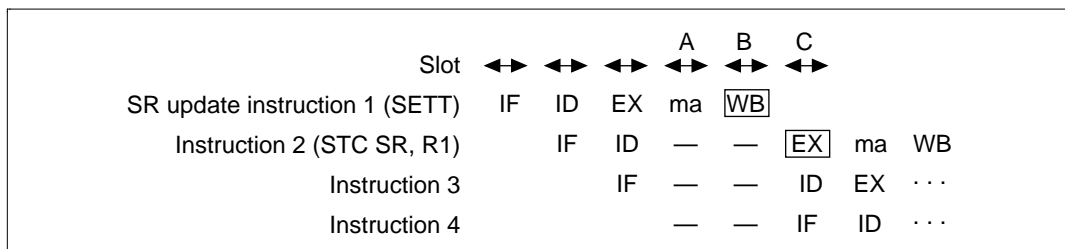

Figure 10-10 Affect on Pipeline of SR Update Instructions
Instructions (SR update instructions) that overwrite the M, Q, S, and T bits of the status register (SR) use the WB stage of the pipeline. If an instruction (instruction 2) that reads SR comes immediately after such an instruction, the data to be read is not yet ready and the EX stage of instruction 2 is stalled until the overwriting of the data in SR is complete. However, in the case of instructions that overwrite all the bits of SR, such as LDC Rm,SR; LDC.L@Rm+,SR; or RTE, no stall occurs due to the contention. The instructions that reads SR are STC SR,Rn; STC.L SR,@-Rn; and TRAPA. The status of the pipeline when a stall occurs is shown in Figure 10-10.
Examples of multiplier access contention are shown in figures 10-10 and 10-11. In these cases, the contention between MA and IF is not taken into consideration.